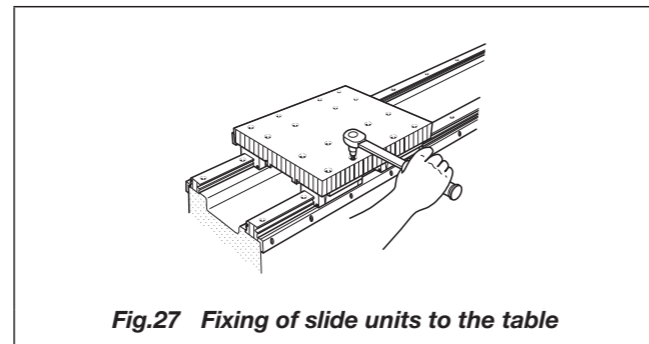

Fig. 27 Fixing of slide units to the table
④Temporary fixing of Linear Way I and II slide units
⑤Final fixing of Linear Way I slide units
⑥Final fixing of Linear Way II slide units
- Move the table by hand to ensure smooth movement, then fix the Linear Way II slide units to the table with mounting bolts. (See Fig. 27.)